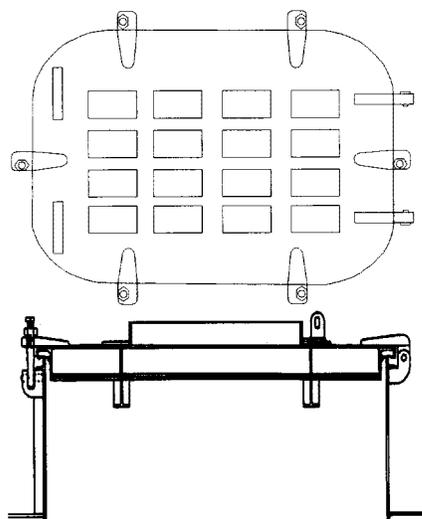

Figure 1-4. Raised Watertight Hatch
- d. Raised Watertight Hatches. (See figure 1-4.) These hatches are installed in interior and exterior areas where rapid access/egress is not required. These hatches are usually located in low traffic areas and offset in a corner of a passageway or compartment. These hatches are usually installed in compartments which provide egress by other means. These hatches do not have escape scuttles, and are usually used for stores on/offload and access for heavy equipment.